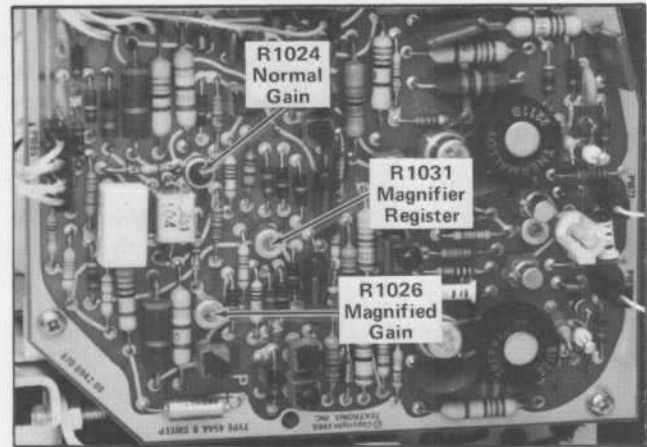

Fig. 5-17. Location of Normal Gain, Magnified Gain and Magnifier Register adjustments (B Sweep circuit board).
c. ADJUST—Normal Gain adjustment, R1024 (see Fig. 5-17), for one marker each division. The second and tenth markers must coincide exactly with their respective graticule lines (reposition the display slightly with the horizontal POSITION control if necessary).
d. ADJUST—Mag Gain adjustment, R1026 (see Fig. 5-17), for one marker each division. The second and tenth markers must coincide exactly with their respective graticule lines (reposition the display slightly with the horizontal FINE control if necessary).
e. ADJUST—Mag Register adjustment R1031 (see Fig. 5-17), to position the middle marker to the center vertical line.